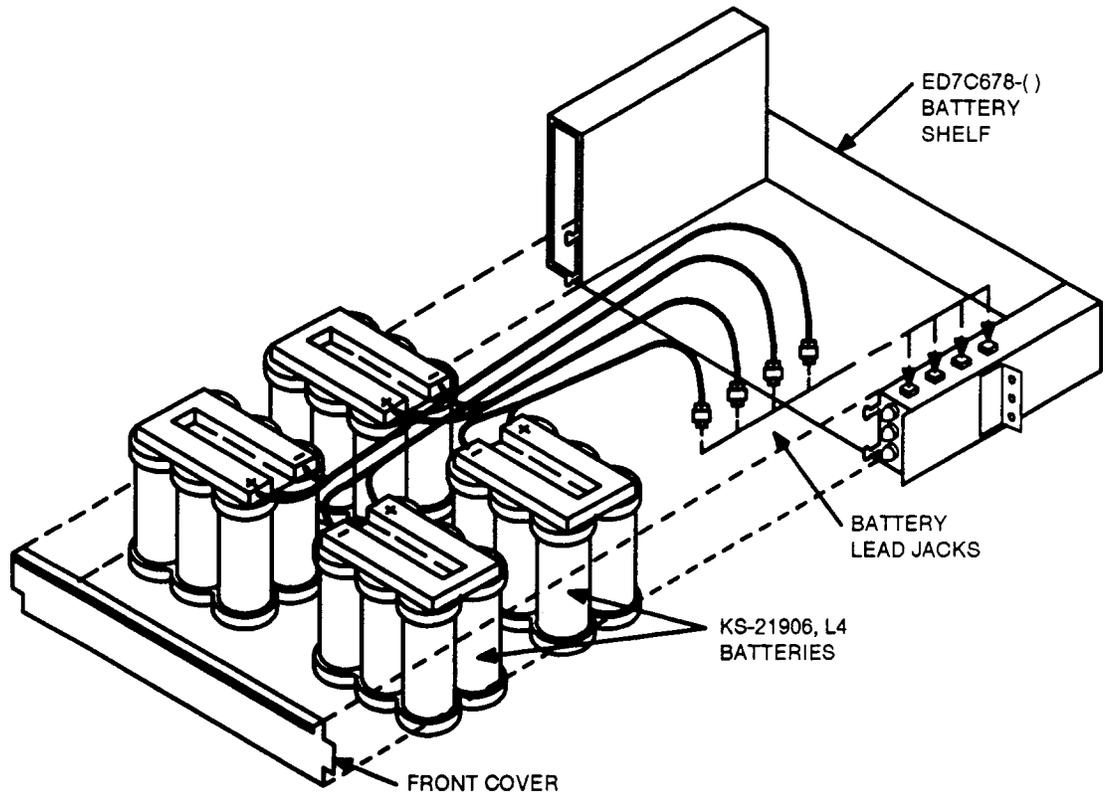

Figure 3 — Battery Placement and Connections
- 24. Place batteries on battery shelf and dress battery cables as each battery pack is placed on shelf (Figure 3).